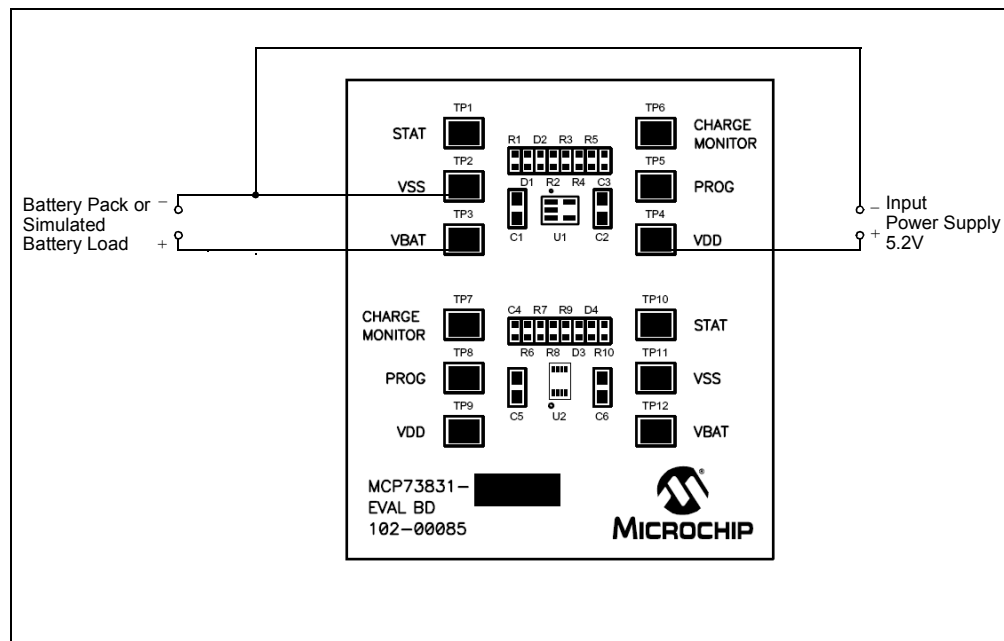

FIGURE 2-1: Setup Configuration Diagram.
2. Connect the positive side of the input source (+) to V_{DD} of the circuit being evaluated. Connect the negative or return side of the input source (-) to V_{SS} of the circuit being evaluated. Refer to Figure 2-1.